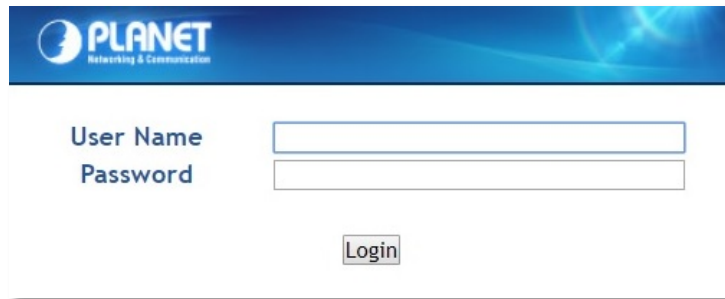

Figure 4-1-2: Login Screen
2. When the following login screen appears, please enter the default username "**admin**" with password "**admin**" (or the username/password you have changed via console) to log in the main screen of **Serial Server**. The login screen in Figure 4-1-2 appears.